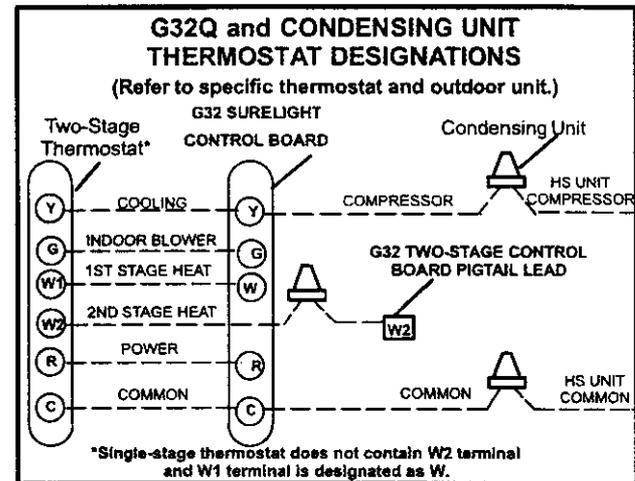
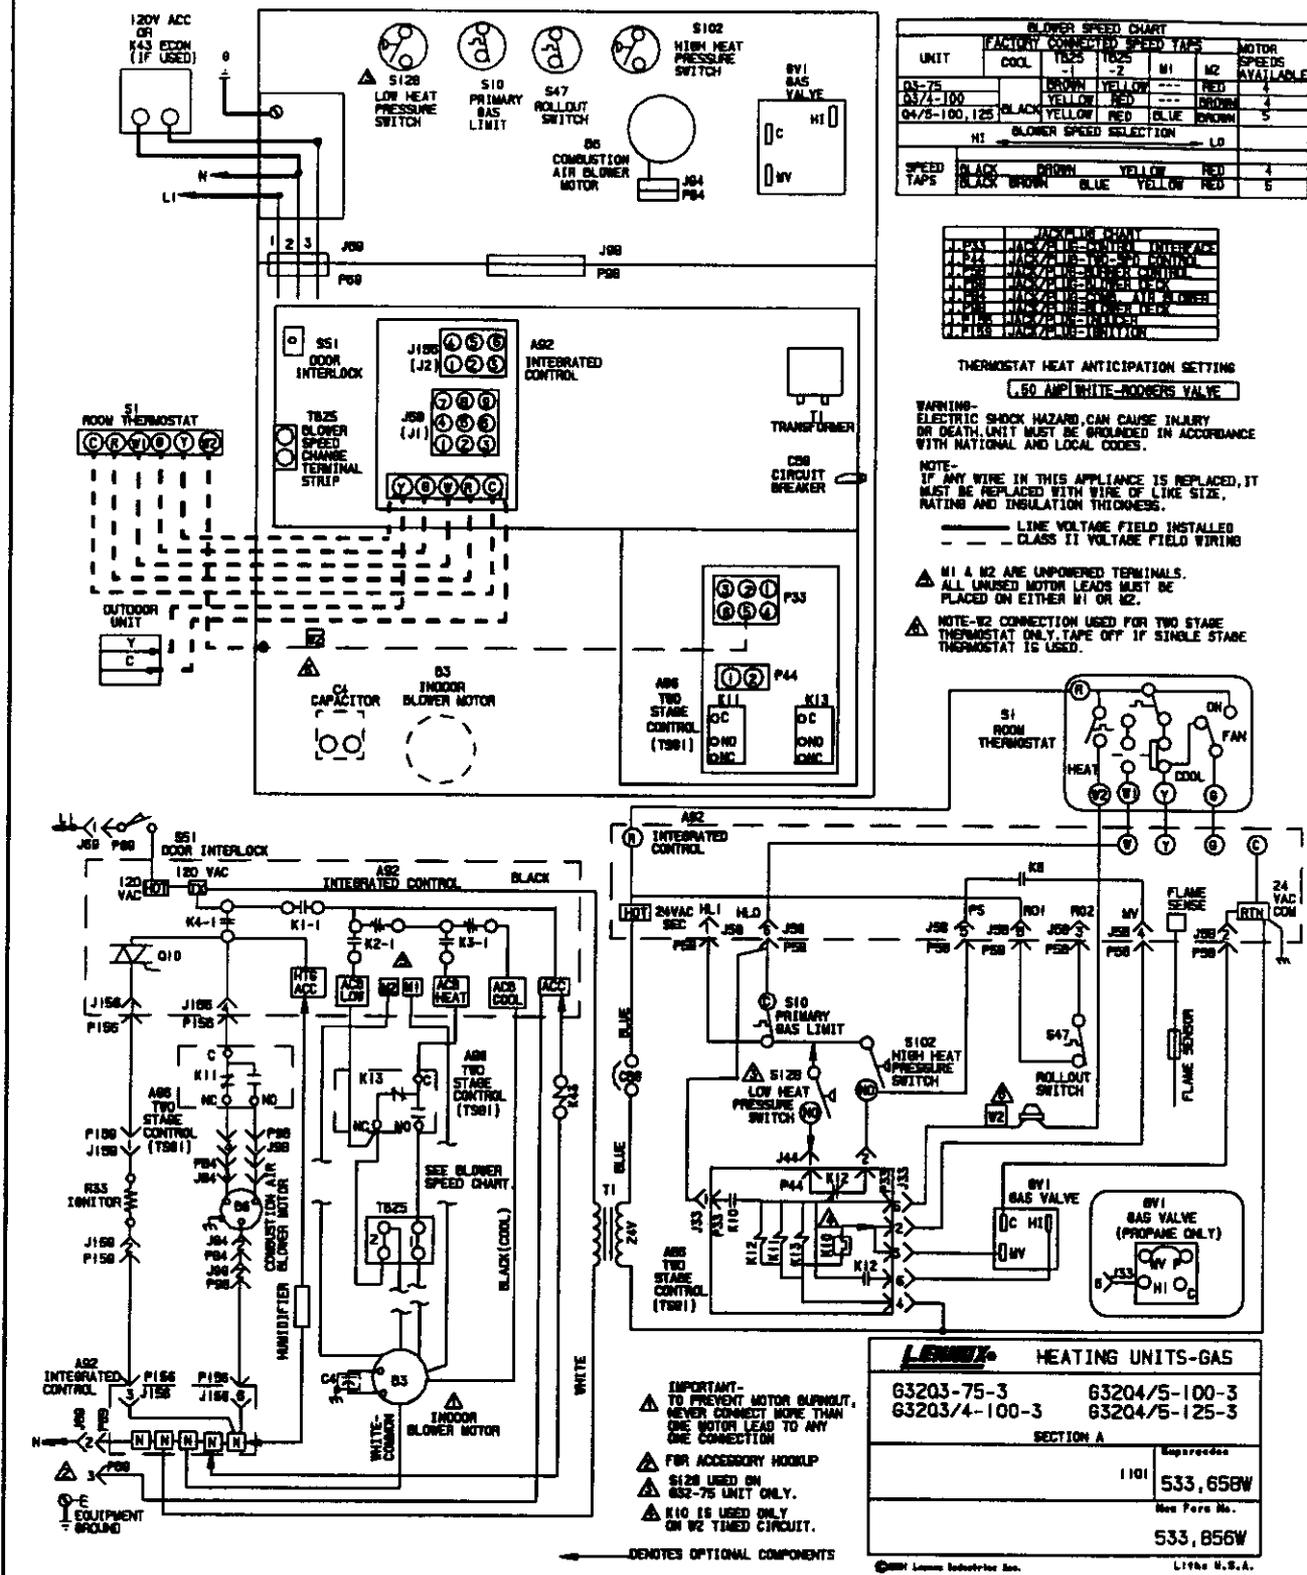

FIGURE 28
FIGURE 33
Figure 28 shows thermostat designations for identification purposes. Refer to figure 29 for control box arrangement, figure 30 for a detail of the Surelight™ integrated control, figure 32 for point-to-point field wiring and figure 33 for schematic wiring diagram and troubleshooting.
- Install room thermostat according to instructions provided with thermostat. See figure 28 for thermostat designations. If furnace is being used with heat pump refer to FM21 installation instruction.